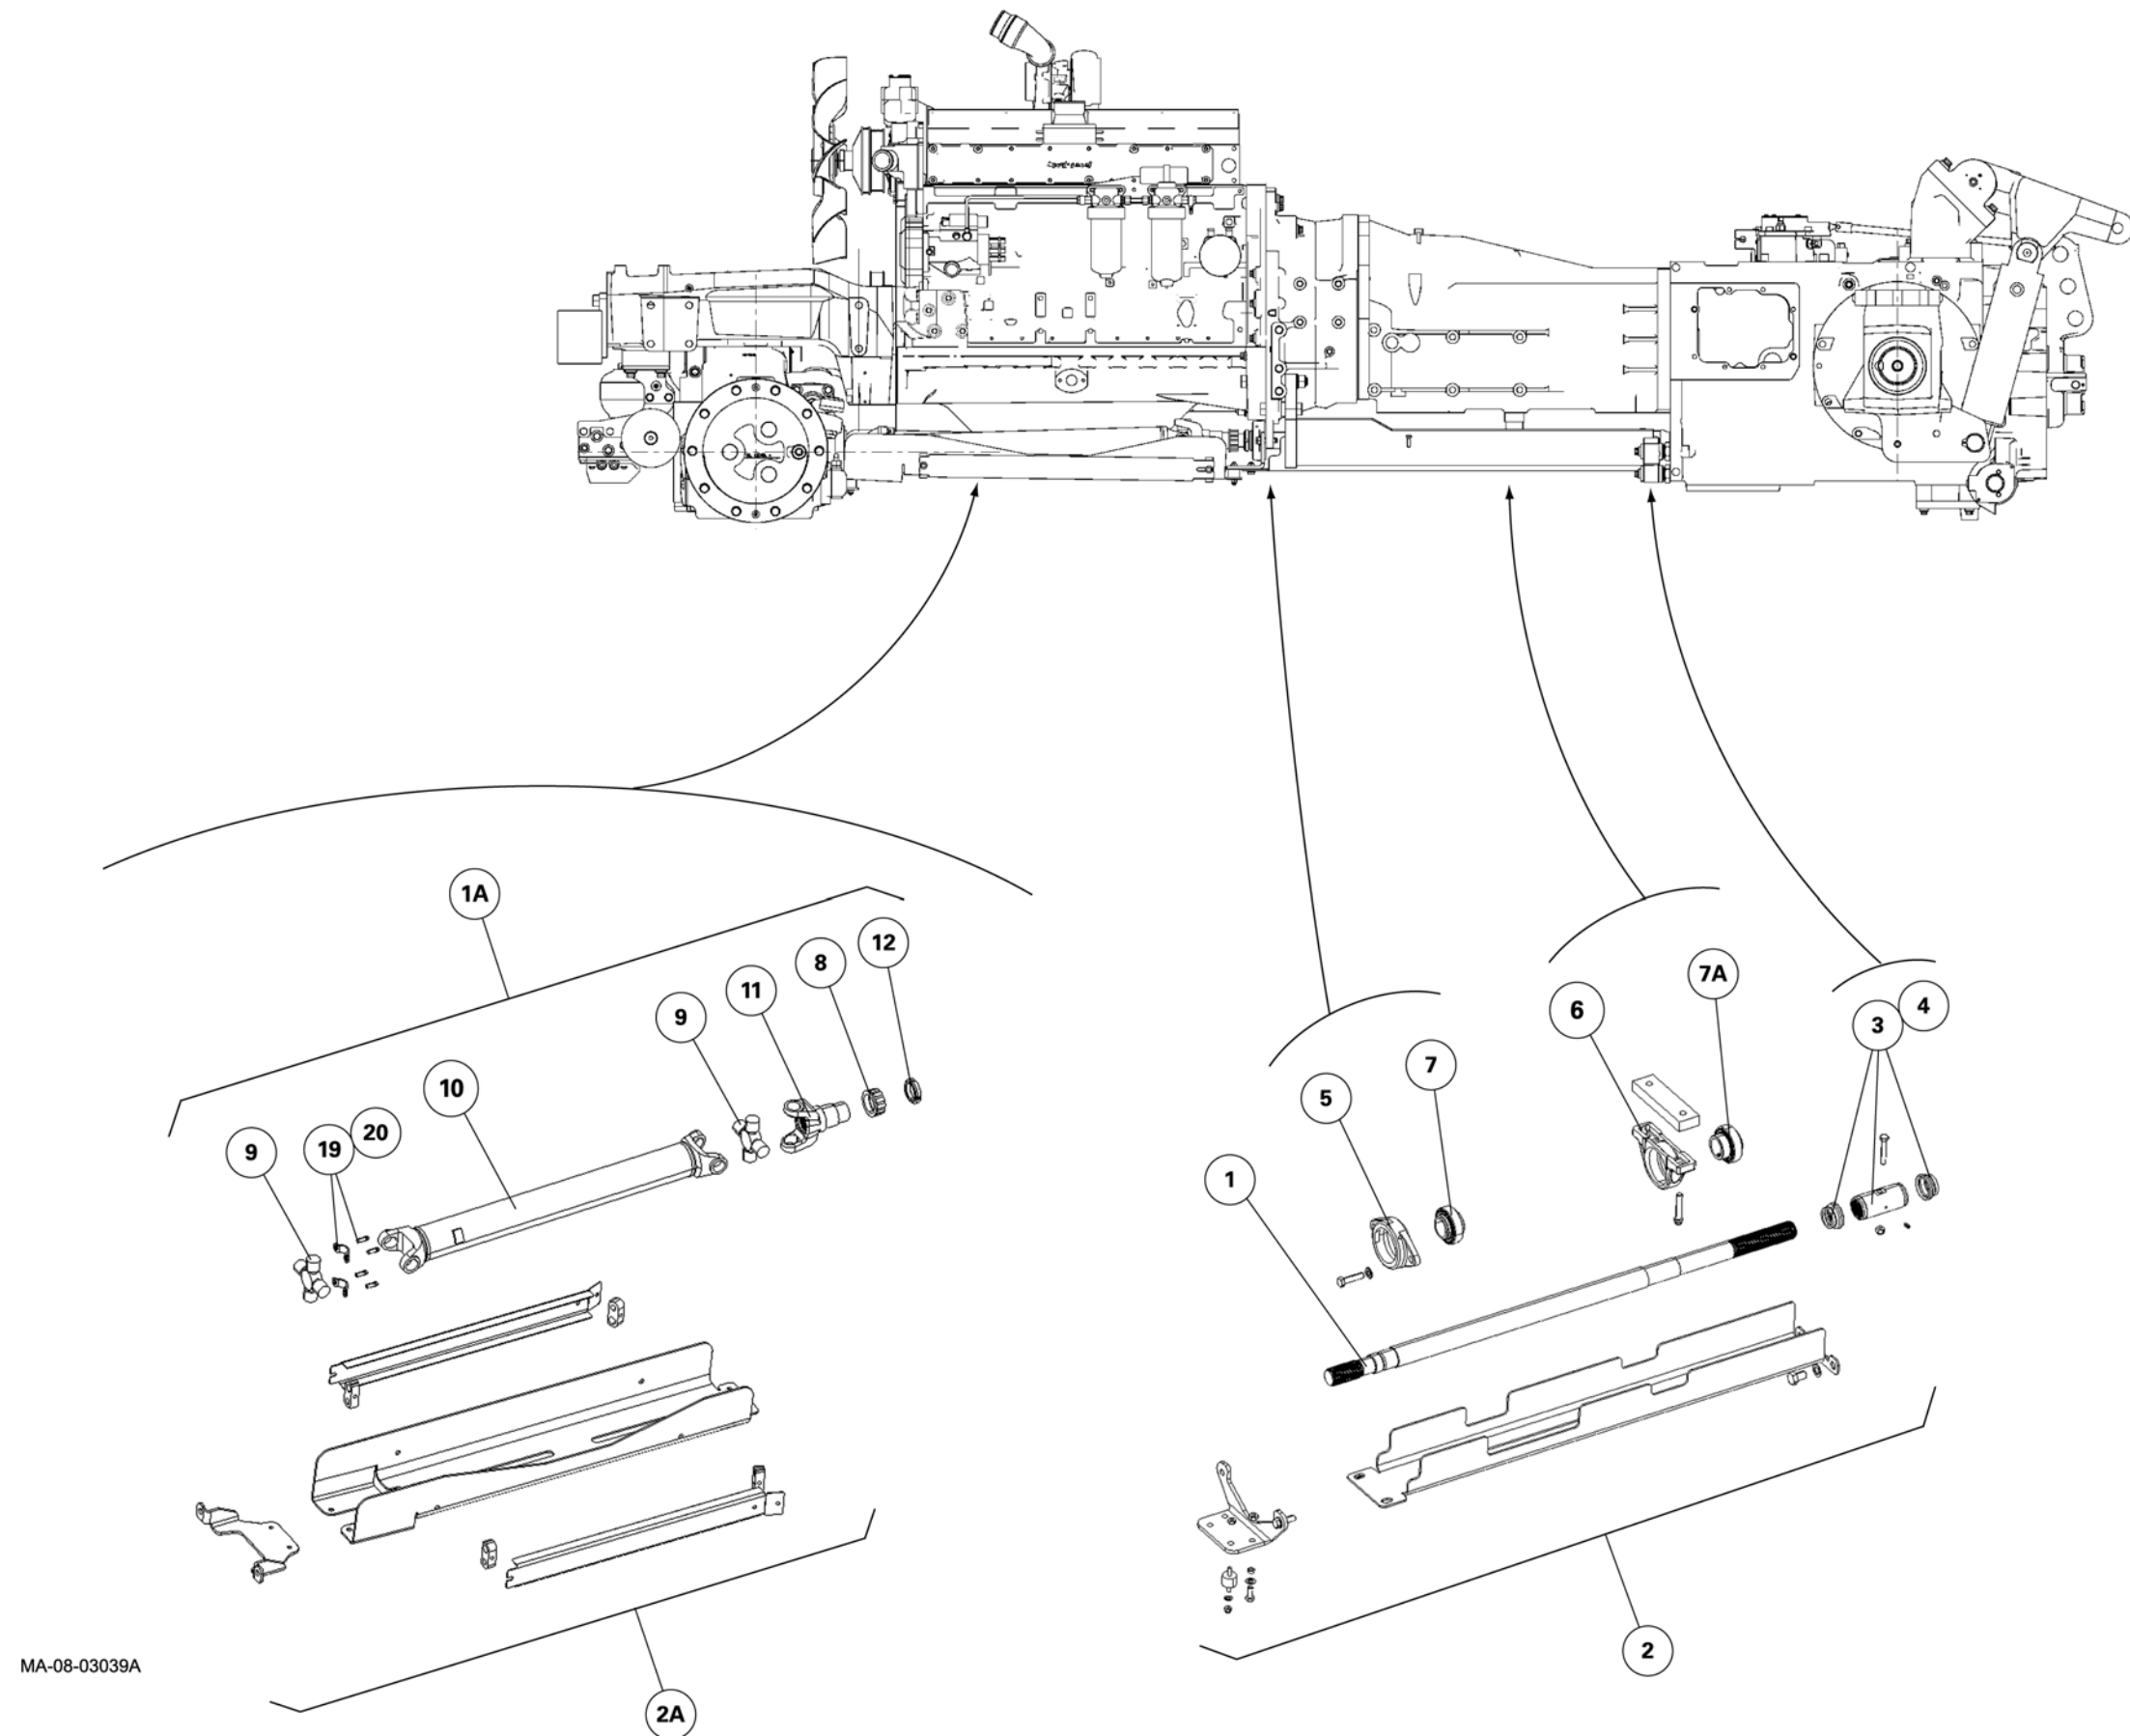
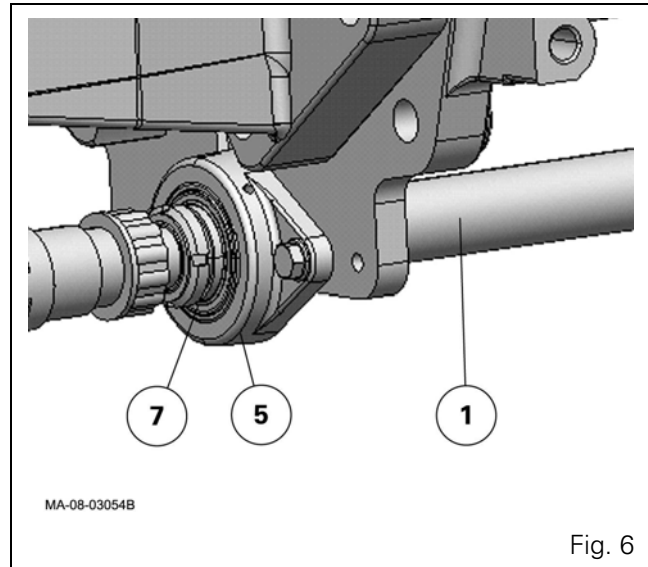
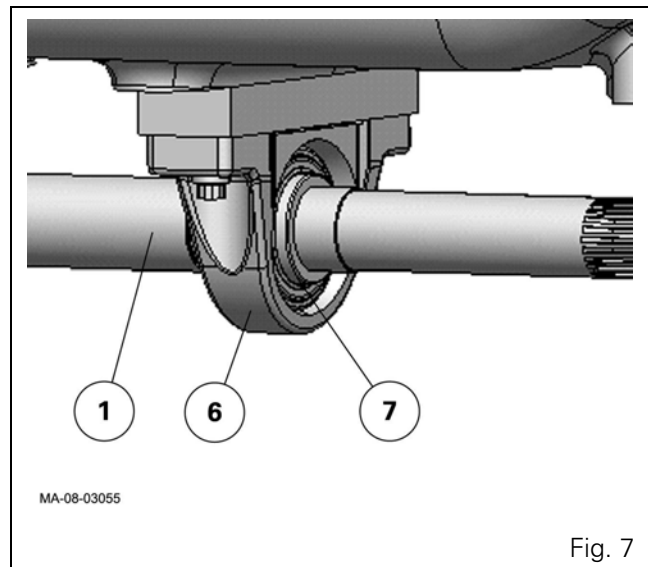

Fig. 4
Fig. 6
Fig. 7
The 4WD transmission line is comprised of two shafts (Fig. 4):
These shafts are linked respectively to the rear axle 4WD system and to the drive pinion carrier, via a splined sleeve and universal joint spiders (Fig. 4).
This line is supported by the bearing and the cast-iron unit fitted at the front under the axle housing. The rotating assembly is protected by two guards (2) (2A) (Fig. 4).
### Universal joint shaft (Fig. 4)
8. Attach the front universal joint spider (9) on the plate of the drive pinion carrier using flanges (19) and collar screws (20) lightly smeared with Loctite 241 or equivalent and tighten them to a torque of 34 - 41 Nm.
9. Moderately tighten the dust seal nut (8).
10. Using a grease gun, grease sleeve (11) and refit the guards (2) (2A) (Fig. 4).
## Long straight shaft and bearing (Fig. 4)
11. Remove the guards (2) (2A) and the universal joint shaft assembly. Carry out operations 1 to 5.
12. Remove the screw and its nut. Slide the sleeve (3) and dust seal towards the front of the long straight shaft.
13. Remove the central bearings (5)(6), bearings (7)(7A) and long straight shaft (1) (Fig. 6 and Fig. 7).
14. Split the bearings (5)(6) from their roller bearings (7)(7A).
15. Unscrew the castellated nut (12) (Fig. 4) using a suitable wrench.
16. Remove the bearings (7)(7A) from the long straight shaft (1).
18. Install bearing (7) on the long straight shaft. Tighten the locknut with a suitable wrench.
20. Assemble the supports (5) (6) on their respective bearings (7)(7A). Tighten the screws.
21. Refit the bearing assembly, bearings and long straight shaft (1).
22. Smear the rear splines of the straight shaft (1) with molybdenum sulphide grease or equivalent.
23. Slide the sleeve (3) towards the rear of the long straight shaft. Fit screw and tighten the nut (Fig. 4).